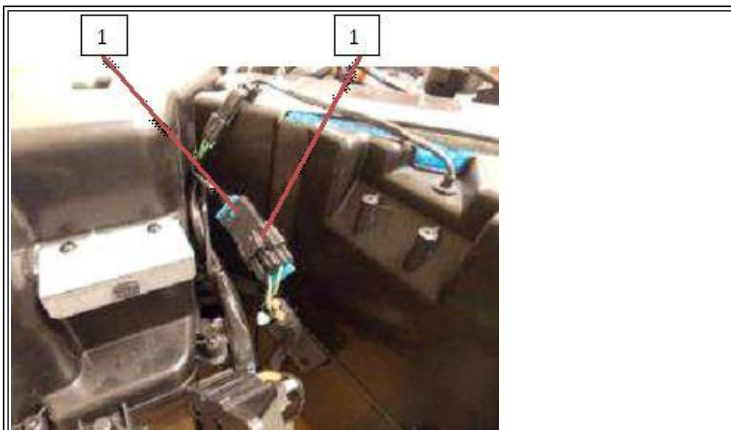

Figure 10: Relay Control Harness 2-Pin Connector.
30. Connect new relay control harness 2-pin connector (Figure 10, Item 1) to control center assembly harness 2-pin connector (Figure 10, Item 2).